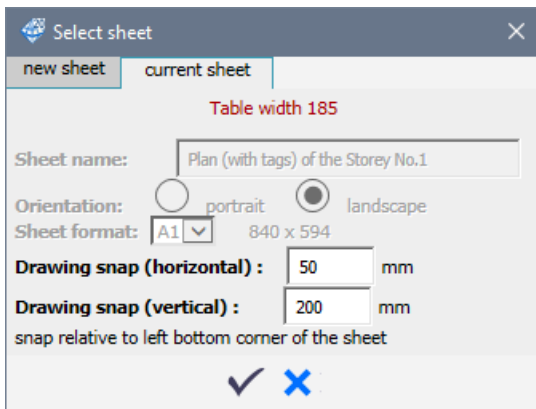

Figure 27.17. Select sheet dialog box
- in the **Select sheet** dialog box (see Fig. 27.17), define the snap for the schedule table (horizontal – 50mm, vertical – 200mm) and click **Select** .